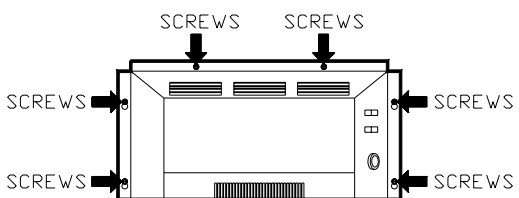

FIGURE 2
2. Remove the two mounting screws from the bottom front of the heater assembly. (FIGURE 2)
3. Loosen but do not remove the four heater and light assembly mounting screws located on the bottom sides of the wall mounted electric fireplace. (FIGURE 2)